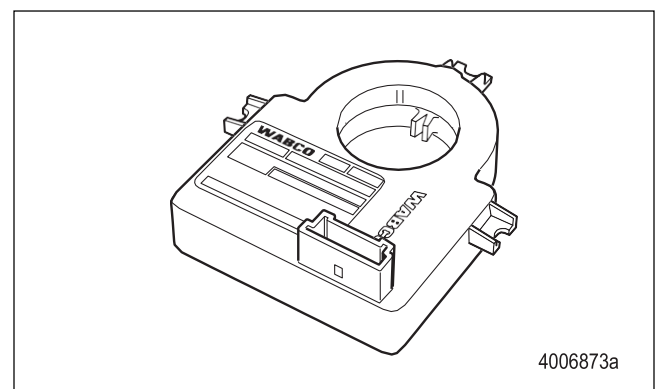

Figure 4.15
6. The SAS is attached by three screws to the steering column with the center tab located in the grooved steering column shaft. Figure 4.15.